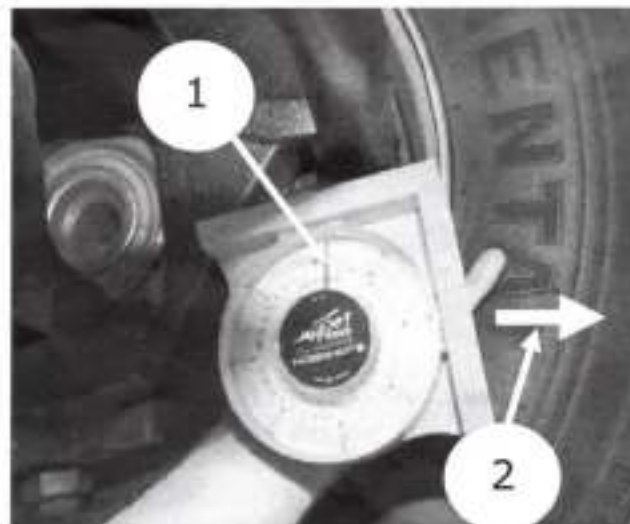
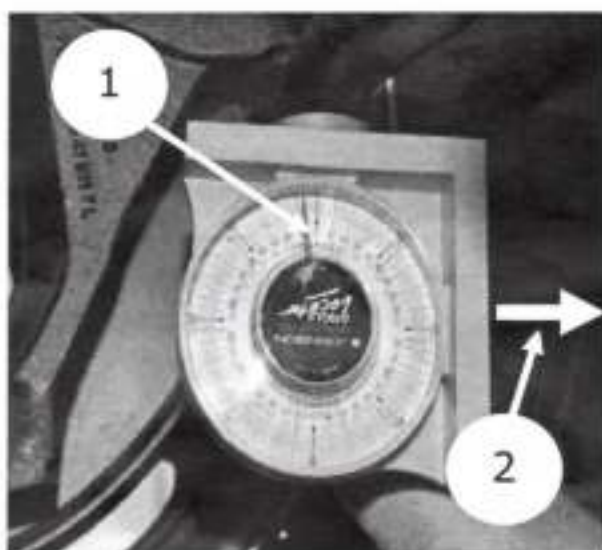

Figure 4 - Inclinometer
Figure 5 - Inclinometer
5. Measure and record the Right Tie Rod End angle first to establish a baseline for the truck. Then measure and record the Left Tie Rod End angle using the same procedure used on the Right Tie Rod End. The angle on the inclinometer is positive when the needle is forward of the 0 degree mark (pointing toward the front of the truck on both the left or right sides) (Fig. 4) and negative when aft of zero (pointing toward the rear of the truck) (Fig. 5).